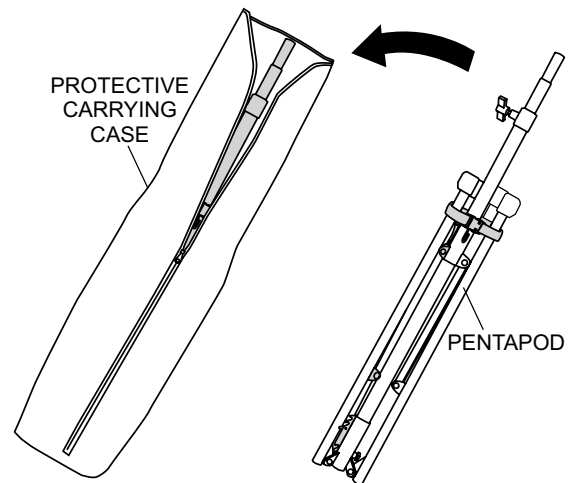

Figure 25. Carrying Case
10. Place pentapod (Figure 25) inside protective carrying case.